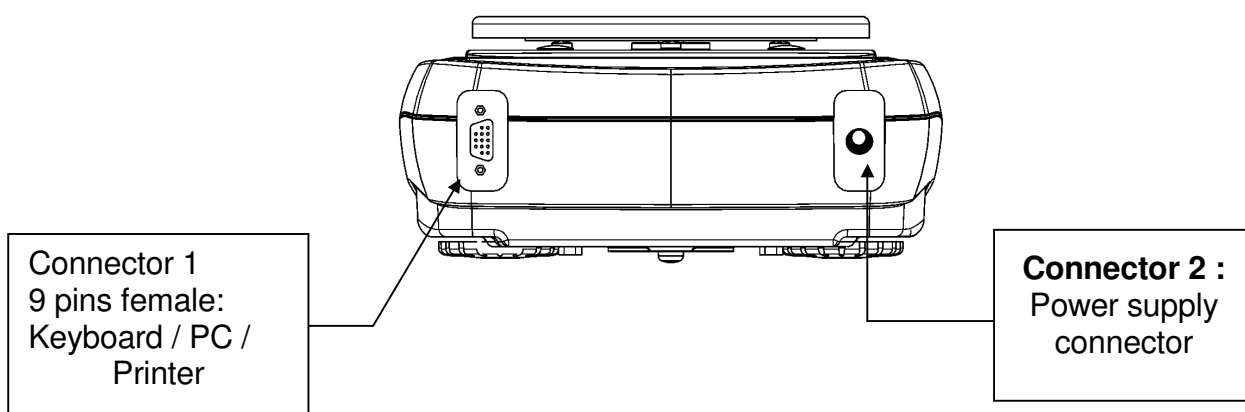

Fig. 1 Rear side of the balance
Selecting the transmission to PC (personal computer IBM compatible), it is achieved a continuous transmission output, at the same rate of weight update on display of the balance. It is possible to perform all the functions of the balances directly from the computer keyboard, transmitting to the balance the ASCII codes as in the table below. The connector to use for connection to PC is the number 1 (fig.1 pag. 46).
3. Selecting the transmission to PC at user command, it is achieved a transmission output only when the **PRINT** button is pressed, also in this case it is possible to perform all the functions of the balance directly from the keyboard of the computer, sending to the balance the ASCII codes in the table above. The connector to use for connection to PC is the number 1 (fig.1 pag. 46).
To receive/transmit data, connect the connector 1 (fig.1 pag. 38) of the balance to the serial port of the PC as shown below:
In this case the printing is effected only when the **PRINT** button is pressed and with stable weight. If the stability is not reached within ten seconds, the message **ERROR05** is displayed preceded by a short acoustic signal and the value of the weight is not sent to the printer. The connector to be used for the connection is the number 1 (fig.1 pag.46)